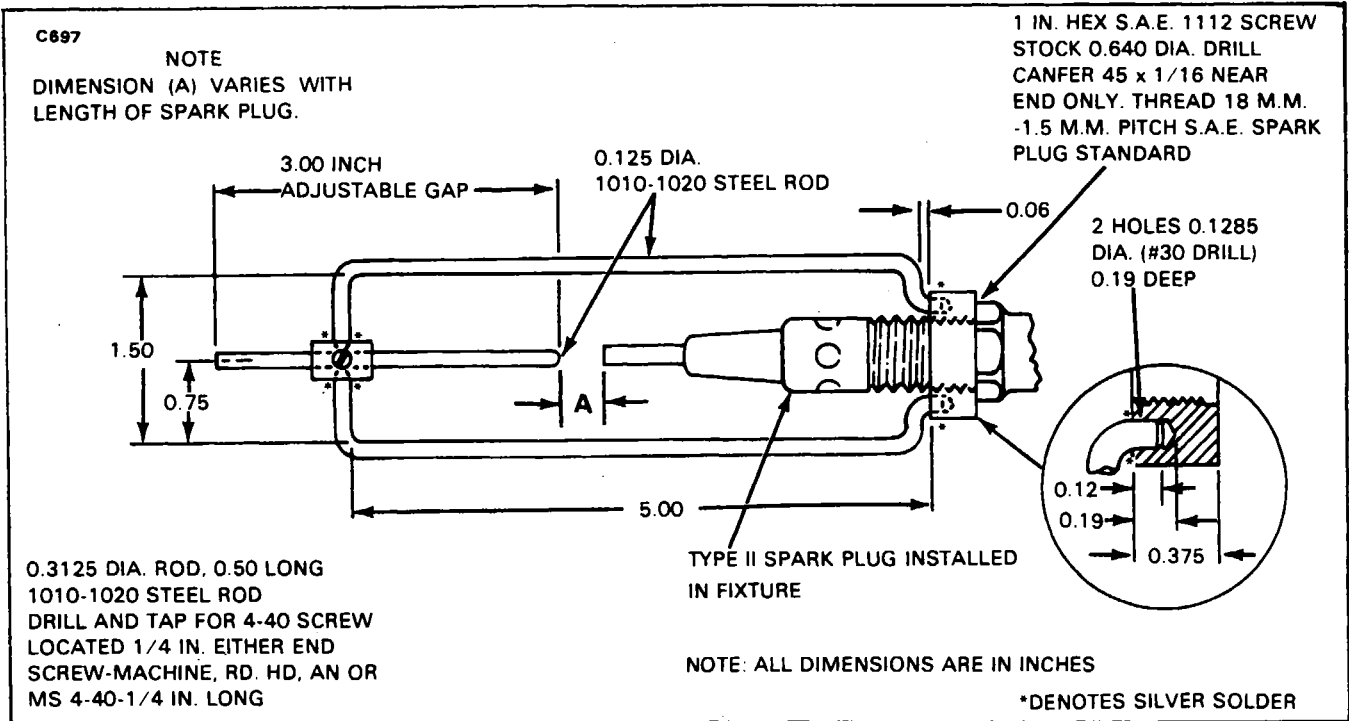

Figure 13-28a. Spark Plug Fixture
4. A spark gap of 0.187 of an inch \pm 0. A convenient means of arranging the correct spark gap is to install a spark plug, P/N 39D18, in a test fixture arranged to provide a ground electrode and a .187 of an inch spark gap. (Refer to Figure 13-28a for information on fabricating this fixture.)
Any one of the several spark plugs may be used with the new spark plug fixture detailed in Figure 13-28a. However, the "A" dimension in that sketch must be varied with the length of the spark plug electrode to provide a gap of .187 of an inch for all spark plugs.